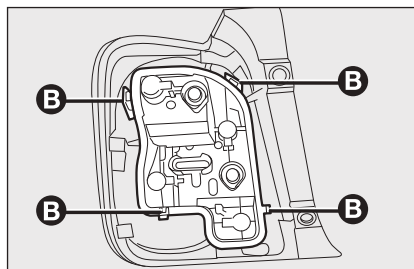

fig. 27
- ☐ extract the bulb holder from its seat releasing it from the locking clips **B-fig. 27**;